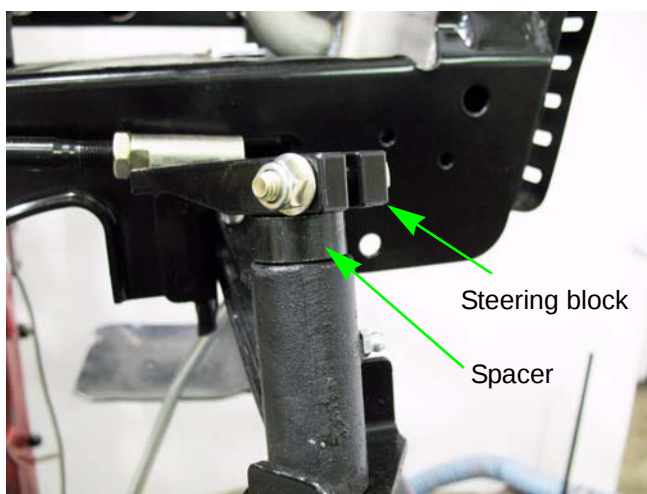

Figure 3.7
5. Support the axle and remove the steering block using two 1/2" wrenches. See Figure 3.7.